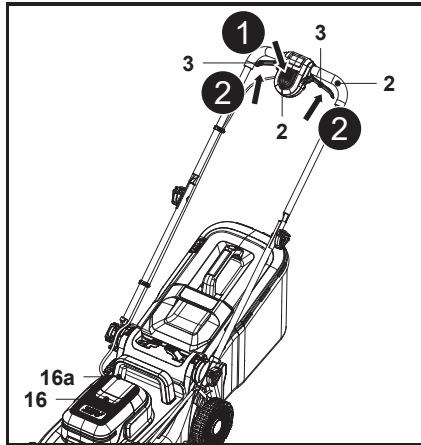

Fig. 17
1. Lift the magnetic lid (15c) and open the battery compartment cover (15), then fully insert the battery pack (24).
2. Carefully close the battery compartment cover (15).
3. Stand behind the grip handle (2).
4. While holding the safety switch button (1) pressed, pull the start levers (3) towards the grip handle (2) and hold them in position (Fig. 17, steps 1, 2).
5. After the lawn mower starts, release the safety switch button (1).
6. The actual battery capacity will be displayed on the battery display (16a) at the back of motor cover (16).